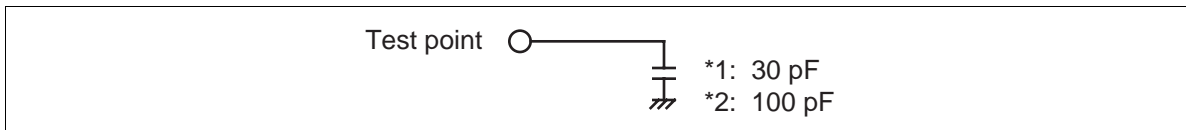

Figure 6 Load Circuit
Notes: 1. Defined by connecting the load circuit in Figure 6.
2. Defined by connecting the load circuit in Figure 6.
Notes: 1. Defined by connecting the load circuit shown in Figure 6.
2. Defined by connecting the load circuit shown in Figure 6.